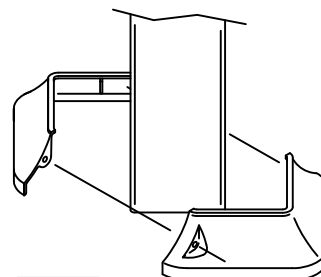

FIG. 9
If mounting plate covers (C2) are used, place halves around legs and secure with 2 (P) screws, see FIG. 9. Draw to a snug fit being careful not to over tighten.